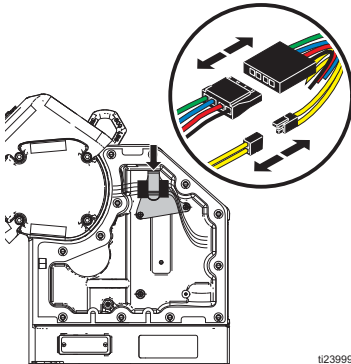

FIG. 18: Motor Wires
- Motor power and motor temperature sensor. See FIG. 18 on page 17.